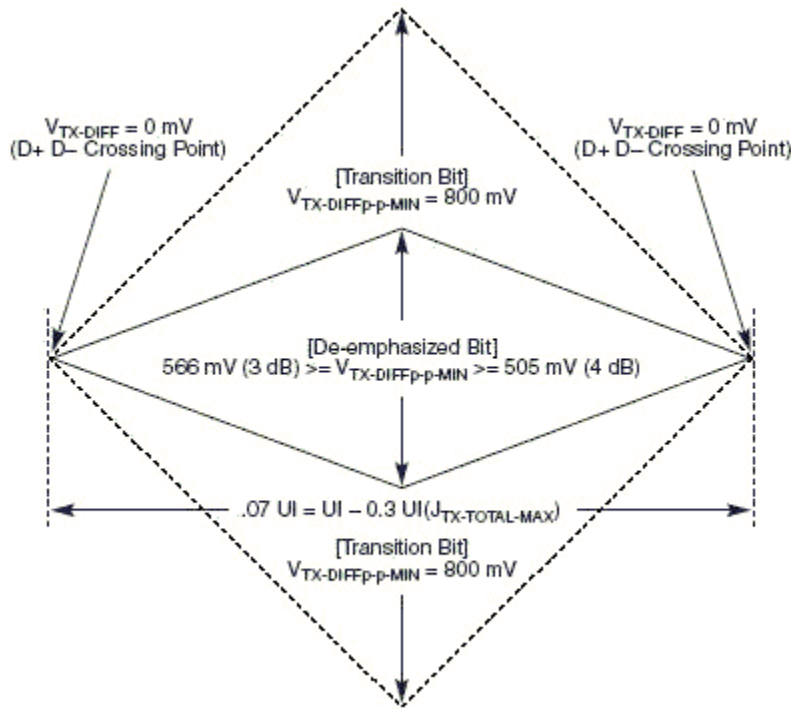
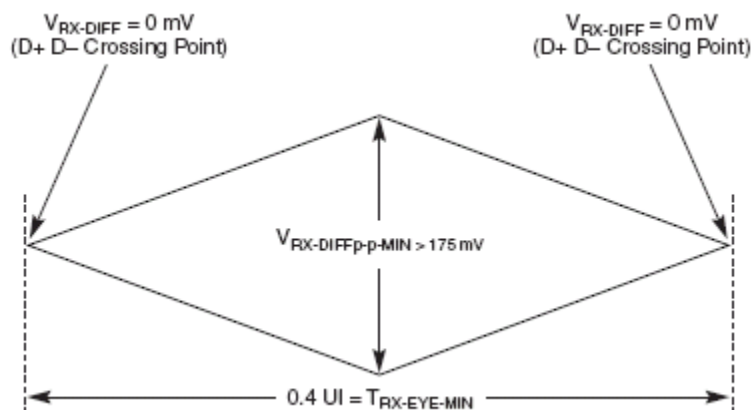
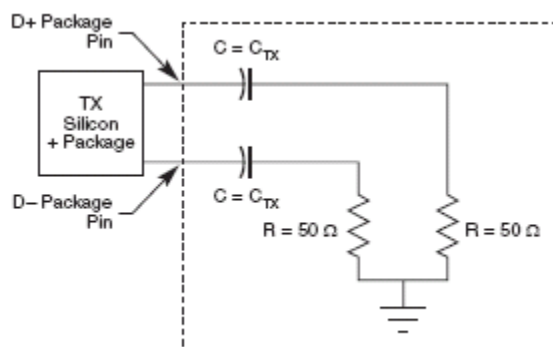

Figure 39. Minimum Transmitter Timing and Voltage Output Compliance Specifications
Figure 40. Minimum Receiver Eye Timing and Voltage Compliance Specification
Figure 41. Compliance Test/Measurement Load
- 2.) Specified at the measurement point into a timing and voltage compliance test load as shown in Figure 41 and measured over any 250 consecutive TX UIs. (Also refer to the transmitter compliance eye diagram shown in Figure 39)
- 4.) The Transmitter input impedance shall result in a differential return loss greater than or equal to 12 dB and a common mode return loss greater than or equal to 6 dB over a frequency range of 50 MHz to 1.25 GHz. This input impedance requirement applies to all valid input levels. The reference impedance for return loss measurements is 50 ohms to ground for both the D+ and D- line (that is, as measured by a Vector Network Analyzer with 50 ohm probes—see Figure 41). Note that the series capacitors  $C_{\text{TX}}$  is optional for the return loss measurement.
- 5.) Measured between 20-80% at transmitter package pins into a test load as shown in Figure 41 for both  $V_{\text{TX-D+}}$  and  $V_{\text{TX-D-}}$ .
The TX eye diagram in Figure 39 is specified using the passive compliance/test measurement load (see Figure 41) in place of any real PCI Express interconnect + RX component.
- 2.) Specified at the measurement point and measured over any 250 consecutive UIs. The test load in Figure 41 should be used as the RX device when taking measurements (also refer to the Receiver compliance eye diagram shown in Figure 40). If the clocks to the RX and TX are not derived from the same reference clock, the TX UI recovered from 3500 consecutive UI must be used as a reference for the eye diagram.
- 4.) The Receiver input impedance shall result in a differential return loss greater than or equal to 15 dB with the D+ line biased to 300 mV and the D- line biased to -300 mV and a common mode return loss greater than or equal to 6 dB (no bias required) over a frequency range of 50 MHz to 1.25 GHz. This input impedance requirement applies to all valid input levels. The reference impedance for return loss measurements for is 50 ohms to ground for both the D+ and D- line (that is, as measured by a Vector Network Analyzer with 50 ohm probes - see Figure 41). Note: that the series capacitors CTX is optional for the return loss measurement.
The RX eye diagram in Figure 40 is specified using the passive compliance/test measurement load (see Figure 41) in place of any real PCI Express RX component.
Note: In general, the minimum Receiver eye diagram measured with the compliance/test measurement load (see Figure 41) will be larger than the minimum Receiver eye diagram measured over a range of systems at the input Receiver of any real PCI Express component. The degraded eye diagram at the input Receiver is due to traces internal to the package as well as silicon parasitic characteristics which cause the real PCI Express component to vary in impedance from the compliance/test measurement load. The input Receiver eye diagram is implementation specific and is not specified. RX component designer should provide additional margin to adequately compensate for the degraded minimum Receiver eye diagram (shown in Figure 40) expected at the input Receiver based on some adequate combination of system simulations and the Return Loss measured looking into the RX package and silicon. The RX eye diagram must be aligned in time using the jitter median to locate the center of the eye diagram.
The reference impedance for return loss measurements is 50. to ground for both the D+ and D- line (that is, as measured by a Vector Network Analyzer with 50. probes—see Figure 41). Note that the series capacitors, CTX, are optional for the return loss measurement.
The AC timing and voltage parameters must be verified at the measurement point, as specified within 0.2 inches of the package pins, into a test/measurement load shown in Figure 41.